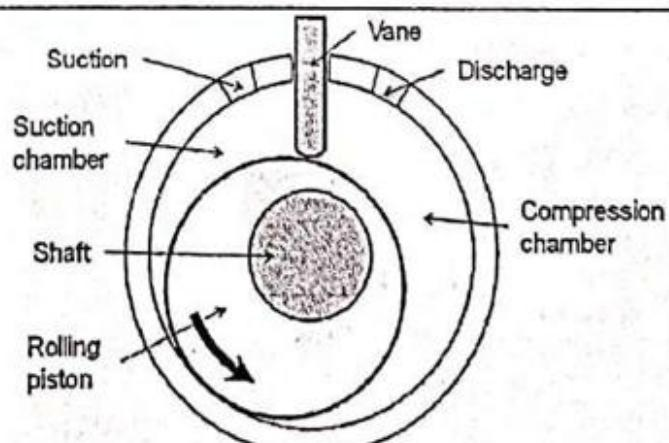

Figure 1: Schematic of a rolling piston compressor
1. Figure 1 shows a schematic view of a rolling piston compressor. It consists of a rolling piston which is the roller in Figure 1,